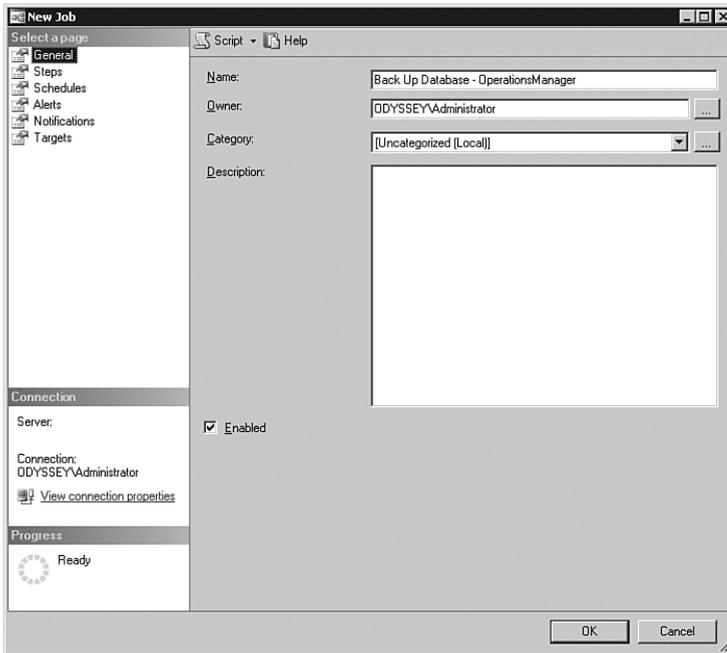

FIGURE 12.9 The New Job screen.
8. Define the parameters of the backup job. Selecting the Script Action to Job option opens the New Job dialog. At the General page, you can change the owner and category of the job. Figure 12.9 shows the default options.